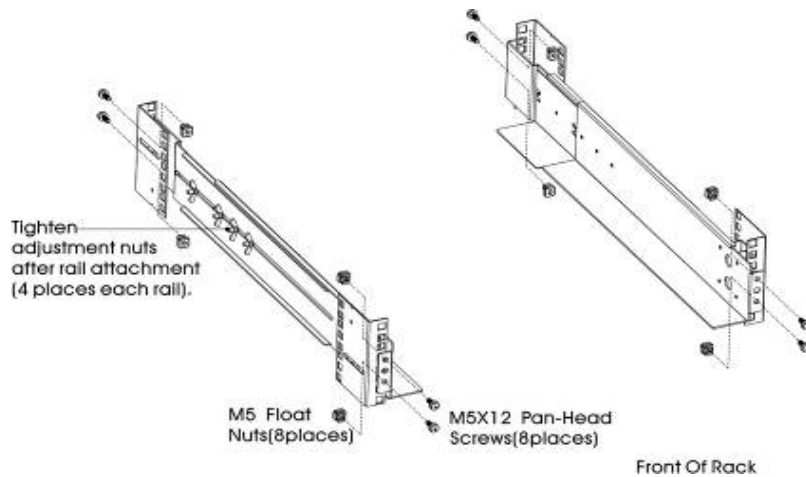

Figure 2 Fixing the Rails
- b) Select the proper size in the rack for positioning the UPS (see Figure 2). The rail occupies four positions on the front and rear of the rack.